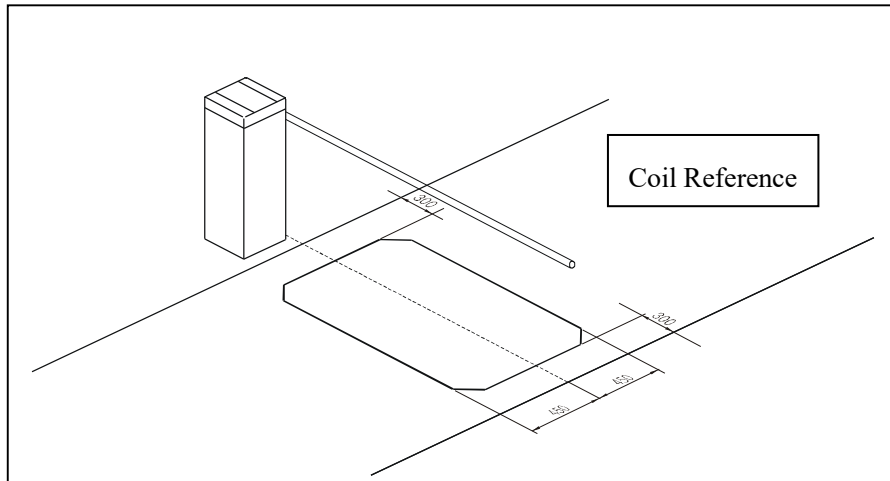

Fig. 2 Coil Placement Reference
- **Coil Requirement:** Recommended to use 2m×2m coil. Its central axis should be directly beneath the Barrier Arm (fig.2) .